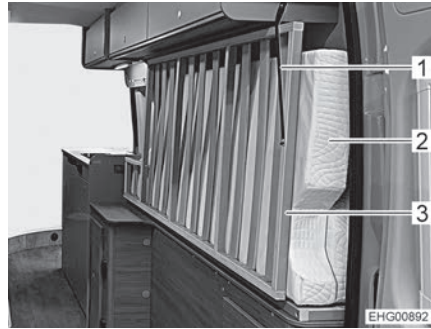

Fig. 69 Right-hand bed in transport position
- Fold the mattress (Fig. 69,2) of the right-hand bed (seen in the direction of travel) lengthwise and push it completely outwards standing on its edge (see Fig. 69).
- Fold up the bed base (Fig. 69,3) of the right-hand bed.
- Secure the rear end of the bed base with the retaining strap (Fig. 69,1).